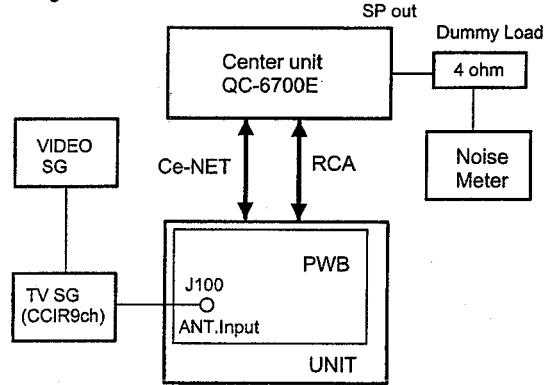

Fig.4
2. Adjust the VR501 so that the display level of the spectrum analyzer becomes 97dB μ to test patan TP101. (Fig.4)